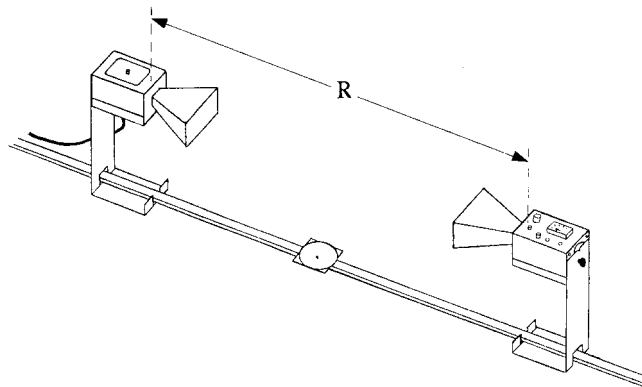

Figure 1: Equipment Setup
1. Arrange the Transmitter and Receiver on the Goniometer as shown in figure 1, with the Transmitter on the fixed arm. Be sure the Transmitter and Receiver are adjusted to the same polarity (the horns should have the same orientation, as shown in the figure).
3. Adjust the Transmitter and Receiver so the distance between the source diode in the Transmitter and the detector diode in the Receiver (the distance labeled R in Fig. 1 is 40 cm). Adjust the INTENSITY and VARIABLE SENSITIVITY dials on the Receiver so that the meter reads 1.0 (full scale).